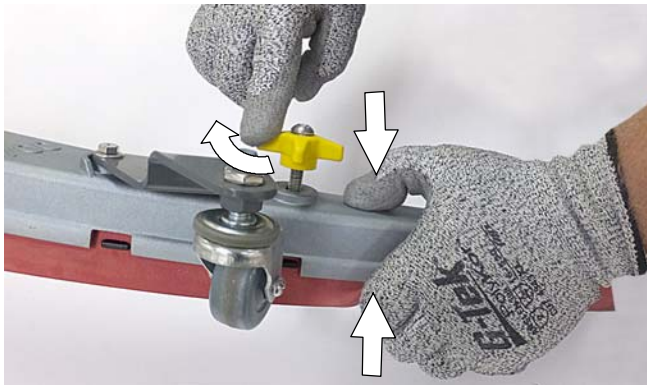

FIG. 140
5. Squeeze the squeegee frame and blade retainer together and re-tighten the two outside knobs (Figure 140).